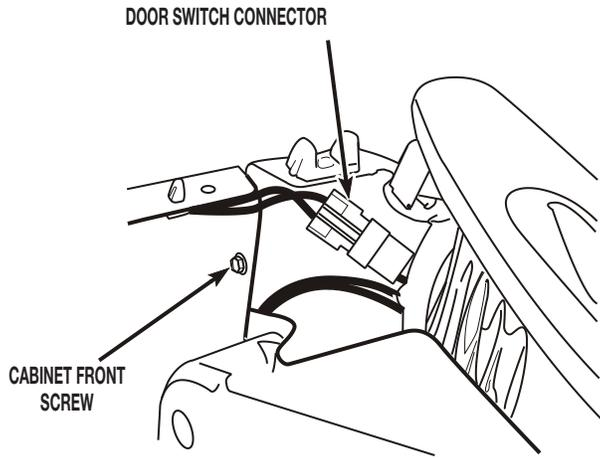

FIGURE 2
- Remove two (2) hex head screws from the cabinet front panel. See *Figure 2*.
- Disconnect the door switch connector from the harness connector. See *Figure 2*.